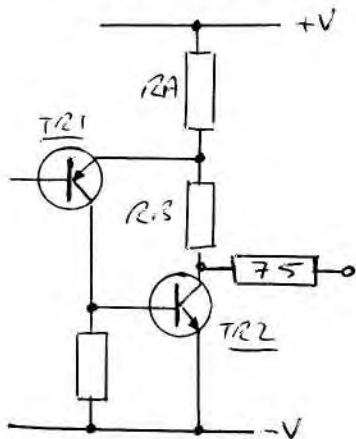
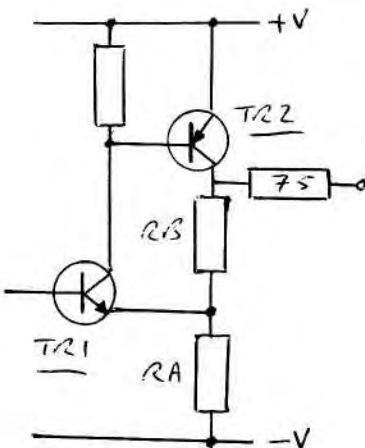
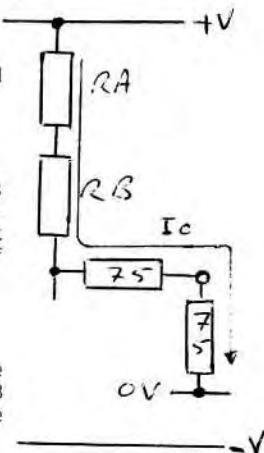

Fig. 1
Fig. 2
FIG.3
1. C117 - 4.7uF tantalum is reversed in Fig.1 of Radcom for Feb. 1983, on the PCB layout in Radcom for March '83 and the BATC receiver analogue board. This causes incorrect size sync pulses on receive, which in turn causes erratic line sync and each line to be incorrectly located giving ragged edges on the picture.
2. C216 - 220uF reversed in Fig.2 of Radcom for Feb.'83, on the PCB layout in Radcom for March '83 and the BATC digital memory board.
The use of a PNP/NPN output stage as shown in Fig.1 and Fig.2 is a very popular configuration, exhibiting, as it does, good linearity due to the high level of feedback as well as being easy to design for a particular gain. There are however a few points which must be taken into account for the circuit to work at peak efficiency.
1. The output swing is not symmetrical. In the circuit shown in Fig.1 for example the output can be driven almost down to the negative rail, but the positive swings are limited by RA and RB in series with the load (see Fig.3). The same will be true for the circuit shown in Fig.2, where the output will swing from almost the positive rail to the negative rail minus that limited again by RA plus RB.
2. Dissipation in RA, RB and TR2 can be a problem, especially if using the circuits at +/-12 volts and driving several loads. One should remember that for the desired zero volts output half of the available HT voltage is across TR2 and half across RA/RB. Standing current needs to be limited to approximately 17mA for each 75-ohm load, thus four loads require a current of 68mA, causing a power level of 816mW (68m x 12v) to be dissipated in TR2 and also across RA/RB. It is my view that for small signal use such as video signals it is better to power the circuit from +/-5 volts. Also it is important to choose the correct circuit, video signals require a larger positive swing so the circuit shown in Fig.2 should be used.